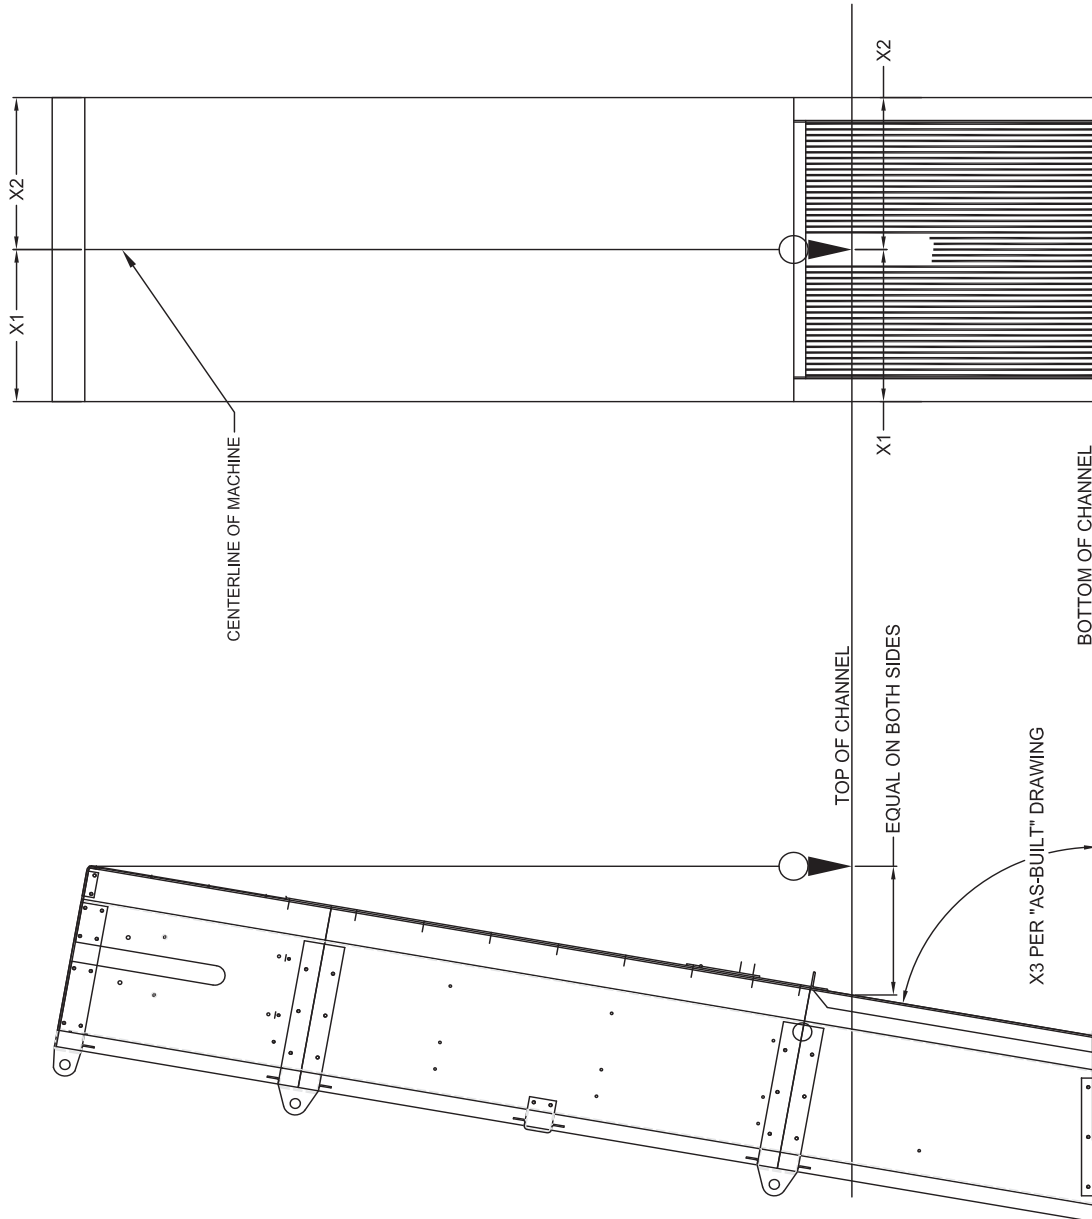

Figure 3.4
- Using a plumb bob, transit and levels, confirm the screen is installed as follows: (refer to Figure 3.4 and the General Arrangement drawing in Section 8.2)
Square: The frame should be positioned as square to the channel opening as possible and the frame should be checked as shown on Figure 3.4
Figure 3.4 shows how to measure for machine level and square.